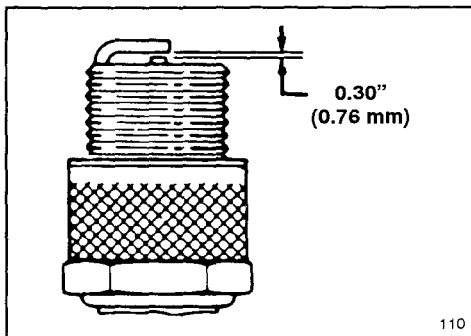

Figure 31
3. Set air gap between electrodes of new spark plug at 0.030" (0.76 mm) (Fig. 31). Next, install spark plug in cylinder head. Tighten plug to 15 ft-lb (20.4 N·m).